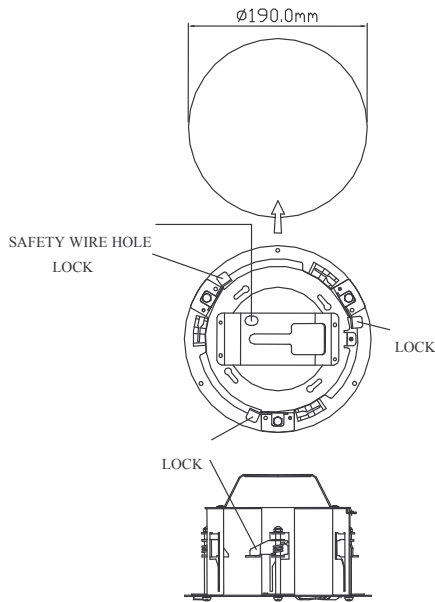

FIG.6
1. Make a hole, 190mm, on the ceiling. (FIG.6)